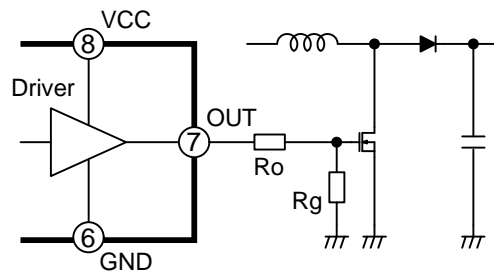

Fig.2 Frequency setting resistance
*2) For connection in Fig.2, Ro range: 0 to 100 Ω